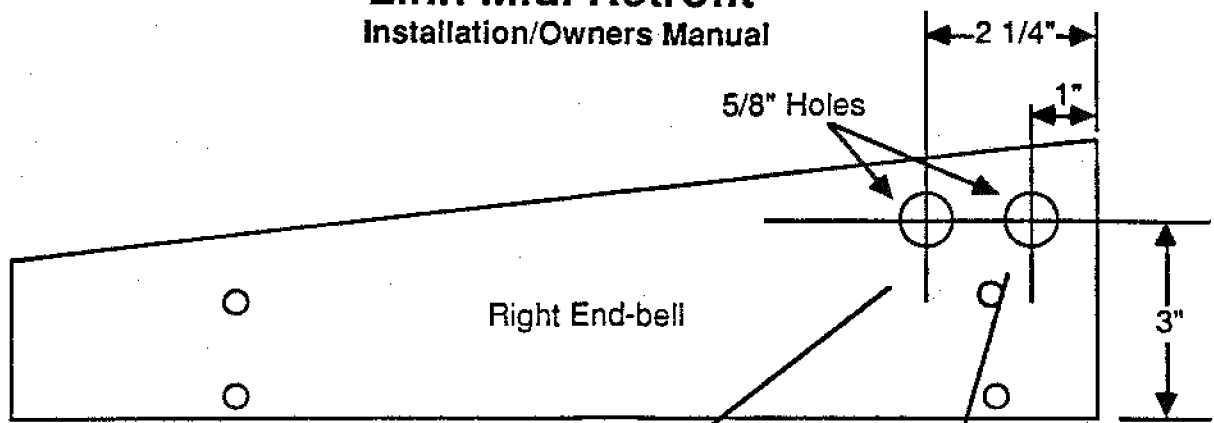

Figure 1
a) Remove the four screws securing the right side end-bell to the LinnDrum. Refer to figure 1, showing the right side end-bell. At the